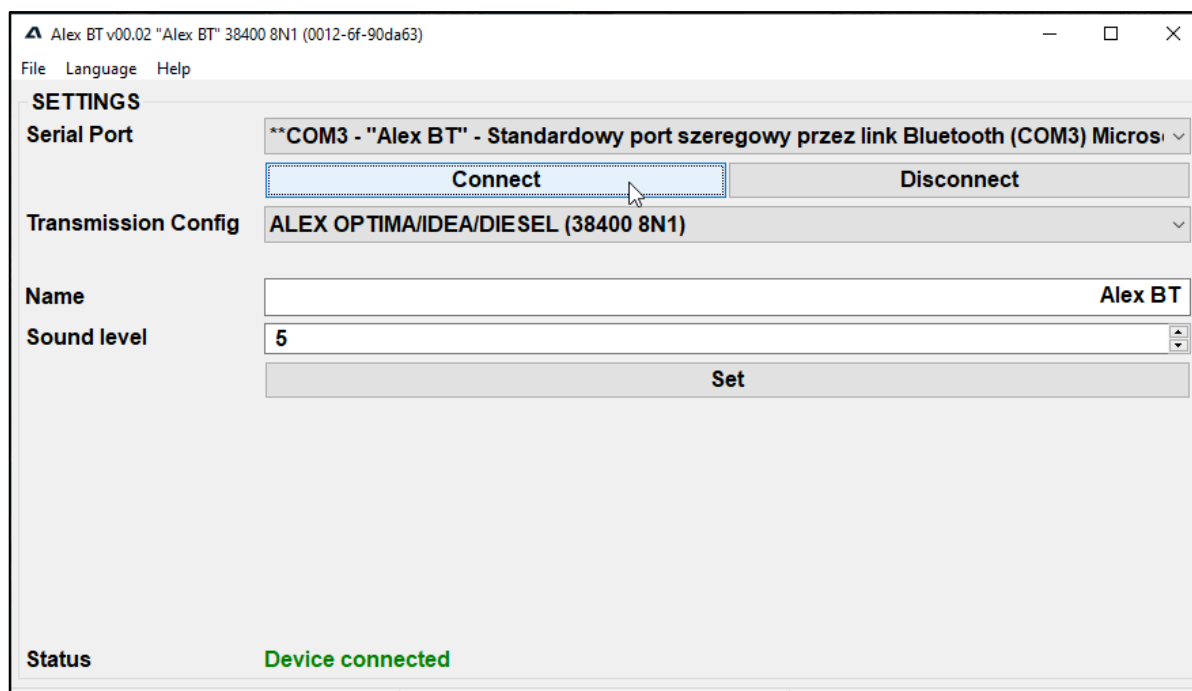

Fig. 12 Correct connection with Alex BT interface, signaled in the configuration software.
2. Press the "Connect" button. After correct connection, "Status" will be changed to "Connected to device" (Fig. 12). The LED diode will stop flashing. In addition, the connection will be signaled by a beep.